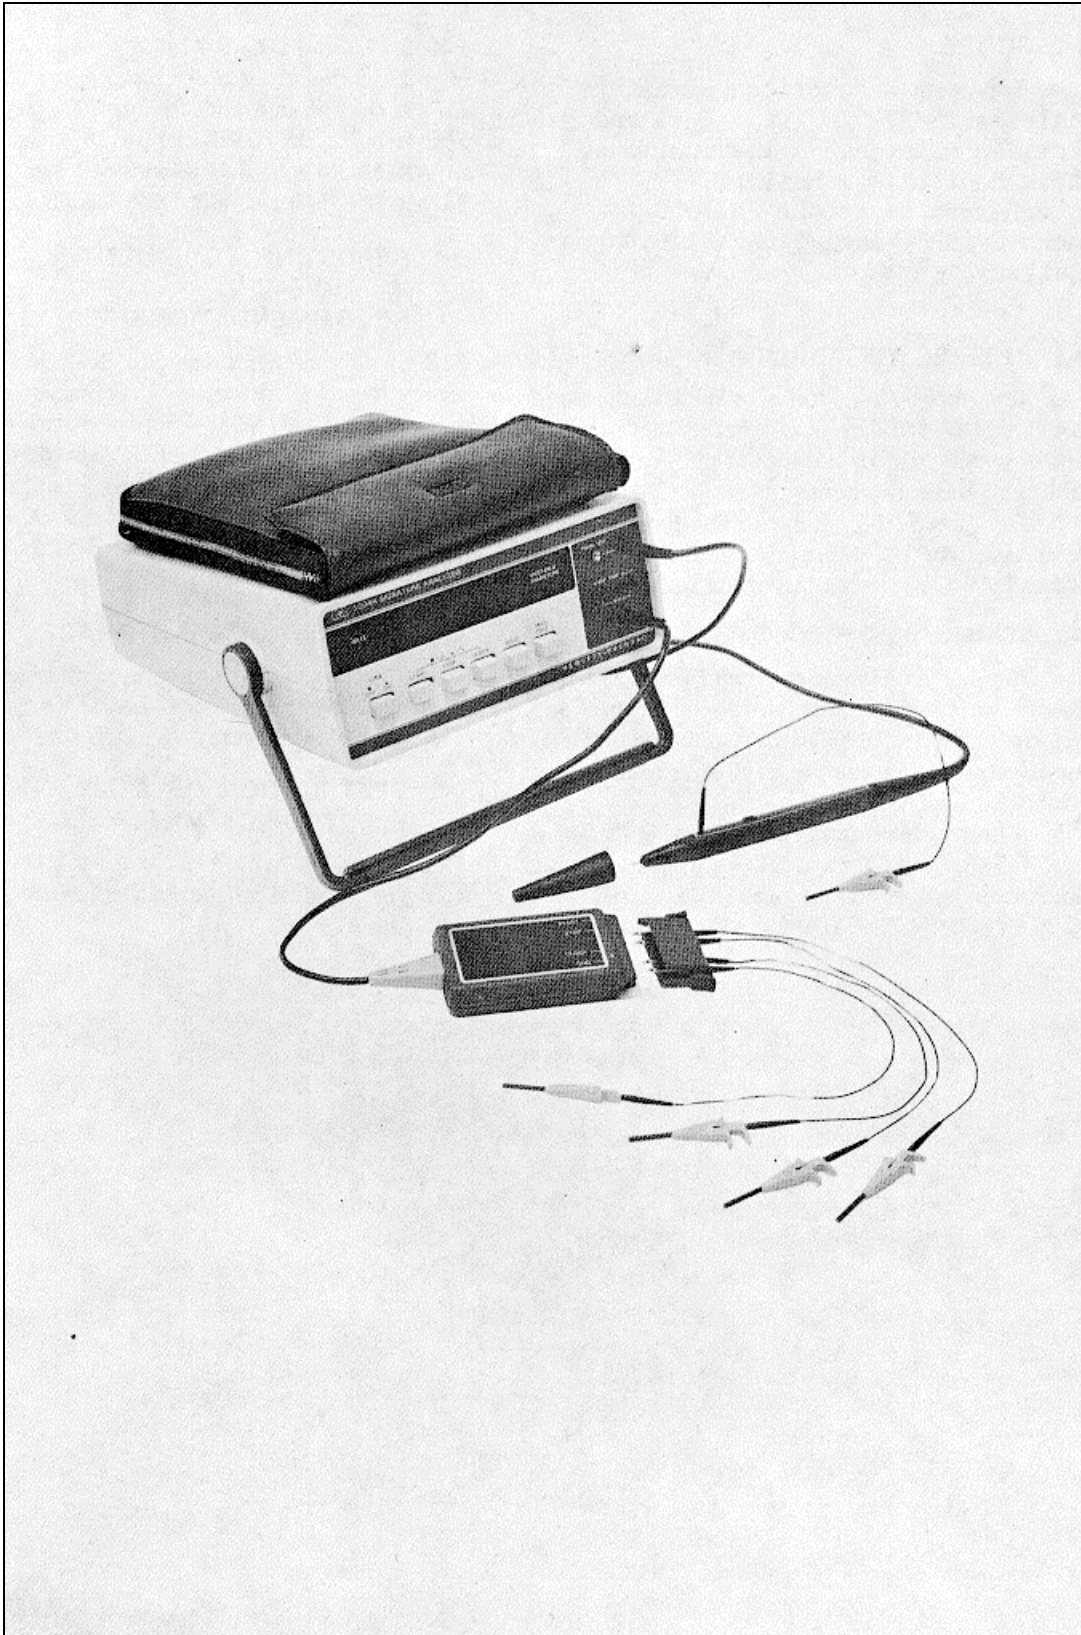

Figure 1-1. Model 5004A Signature Analyzer
a. This manual describes Signature Analyzer TS-3791/U (fig. 1-1) and provides maintenance instructions. Throughout this manual, TS-3791/U is referred to as the Hewlett Packard (HP) Model 5004A Signature Analyzer.